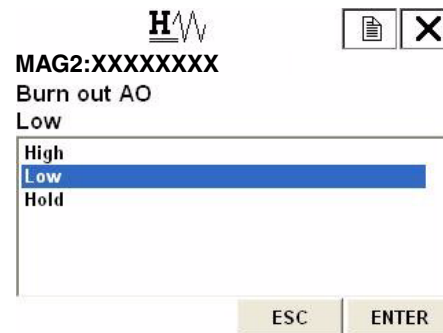

Figure 99.
- Figure 99 is then displayed.
- Once the display as shown in Figure 99 appears, move the arrow key up or down to select **HIGH**, **LOW**, or **HOLD**. After making a selection, press F4 (ENTER). If F3 (ESC) is pressed here, the selection is canceled and the display returns to the Analog output menu.